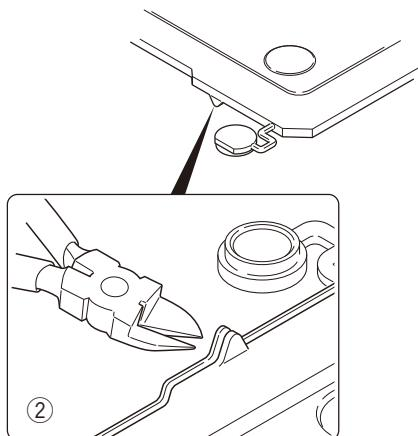

Fig. 7-3
Note: If the GPS receiver is installed, cut the base of the convex tab of the top packing with a pair of nippers, or similar tool. (Fig. 7-3 ②)